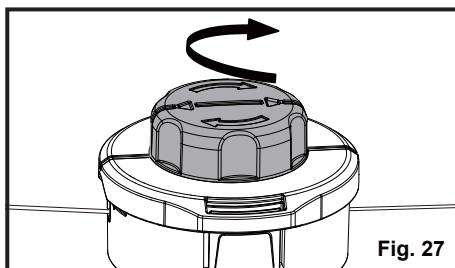

Fig. 27
- Press and rotate the spool head clockwise to wind the line in the spool (Fig. 27).